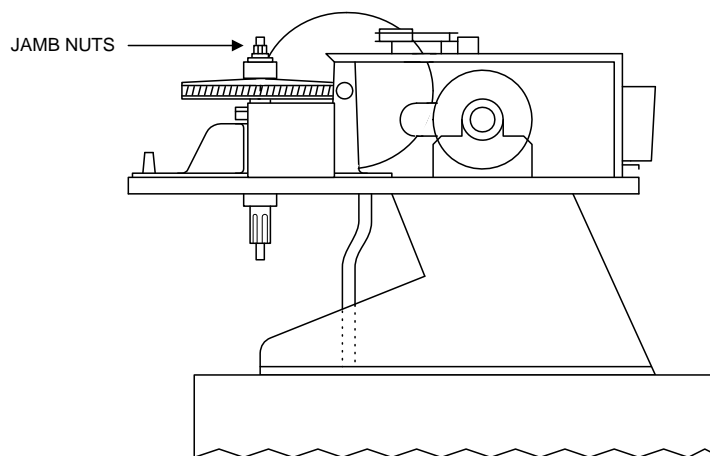

Figure 23
1. Be sure power to the operator is turned OFF whenever adjustments to the clutch are being made. Loosen the upper jamb nut to "un-lock" the lower jamb nut then loosen the lower jamb nut. (See figure 23 on the preceding page)